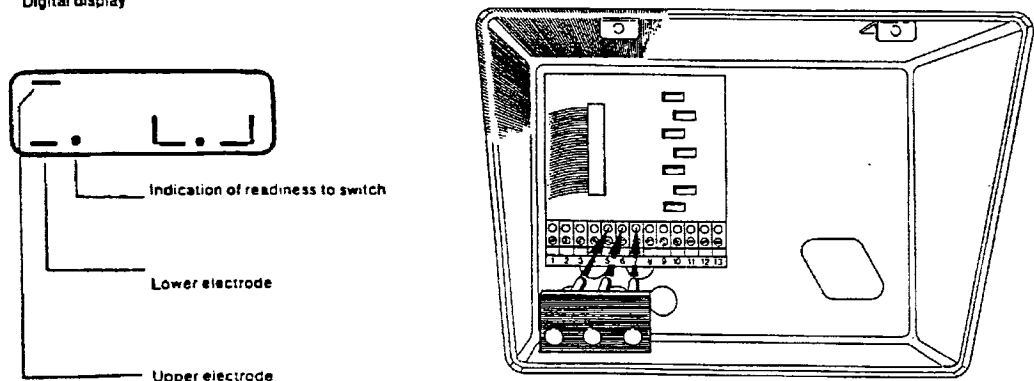

Fig. 2
- k. For the lower electrode to be ready to switch, the START button must be held in during the test. A dot in the display next to the symbol for the lower electrode signals readiness of the lower electrode to switch (see fig. 2).
- l. Set the adjusting potentiometer to about 50 ohms above the expected resistance (150, 450 or 750 ohms) and then slowly turn it back to 100, 400 or 700 ohms until the symbol for the lower electrode lights up (see fig. 2 below).
- i. By turning the potentiometer on the printed circuit board, a symbol can be illuminated on the display which shows the switching condition of the upper electrode (see fig. 2 below).
- m. For the lower electrode to be ready to switch, the START button must be held in during adjusting. A dot in the display next to the symbol for the lower electrode signals readiness of the lower electrode to switch (see fig. 2 below).